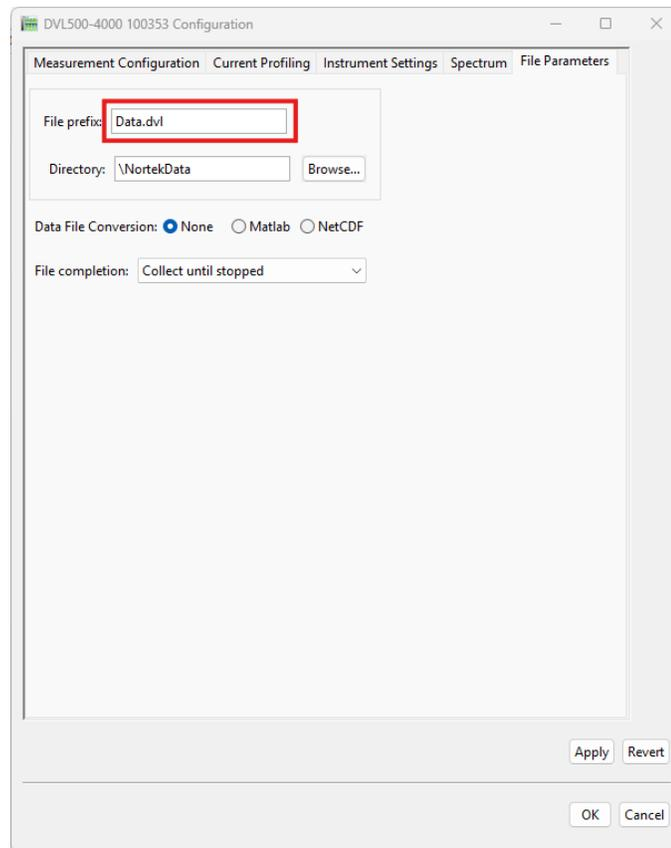
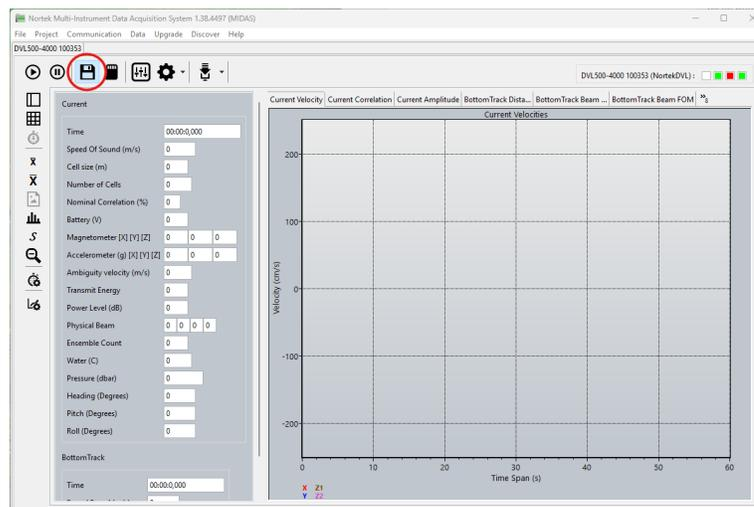

Figure 15: Midas File Configuration
Figure 16: Midas Save to File
6. Configure recording for the DVL, specifying a file name in the “File Parameters” tab (figure 15). Click OK to save configuration and file name. Select the floppy disk drive on the homepage to enable saving to computer (figure 16).